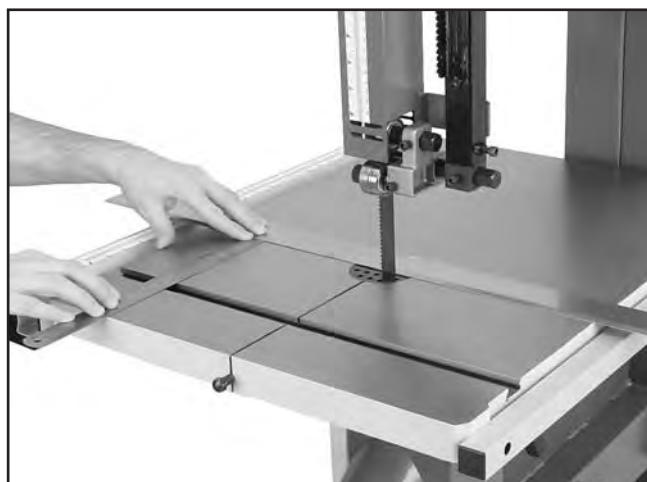

Figure 39. Measuring for table-to-blade parallelism.
4. Place an accurate straightedge along the blade. The straightedge should lightly touch both the front and back of the blade (see **Figure 39**).